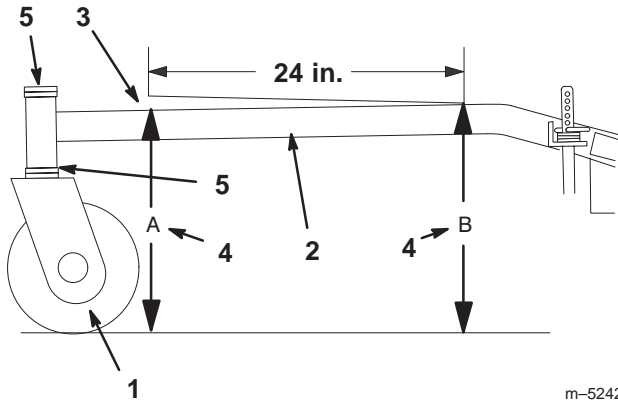

Figure 46
The carrier frame must have a pitch of a 1/4 in. over the length of 24 inches on the carrier frame (Fig. 46).
1. Measure out 24 inches on the carrier frame (Fig. 46).
2. Measure carrier frame height at location "A" (Fig. 46).
3. Measure carrier frame height at location "B" (Fig. 46).
4. The height at location "A" must be a 1/4–3/8 in. lower than location "B" (Fig. 46).
5. If the carrier frame is not correct, move caster spacers to make it a 1/4–3/8 in. pitch (Fig. 46). Move spacers from top or bottom to make the correct pitch.